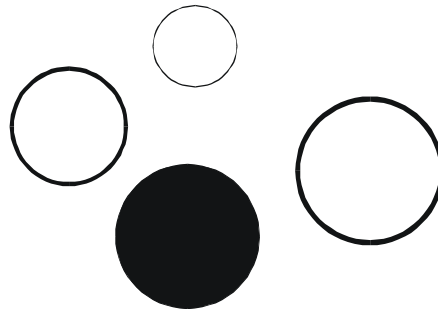

Figure C-3. Values of dark objects.
(2) The placement of objects is yet another means of creating depth in a drawing. By overlapping one object with part of another, you give the illusion of depth. If an object is “in front of” another, then the viewer “knows” that it is closer than the one behind it.
(3) Although linear perspective deals with the relationship of the value of the lines with which an object is drawn can indicate its distance from the viewer. The eye “reads” a dark line more quickly than a faint one. An object that is dark in value appears to come forward visually. See Figure C-3.